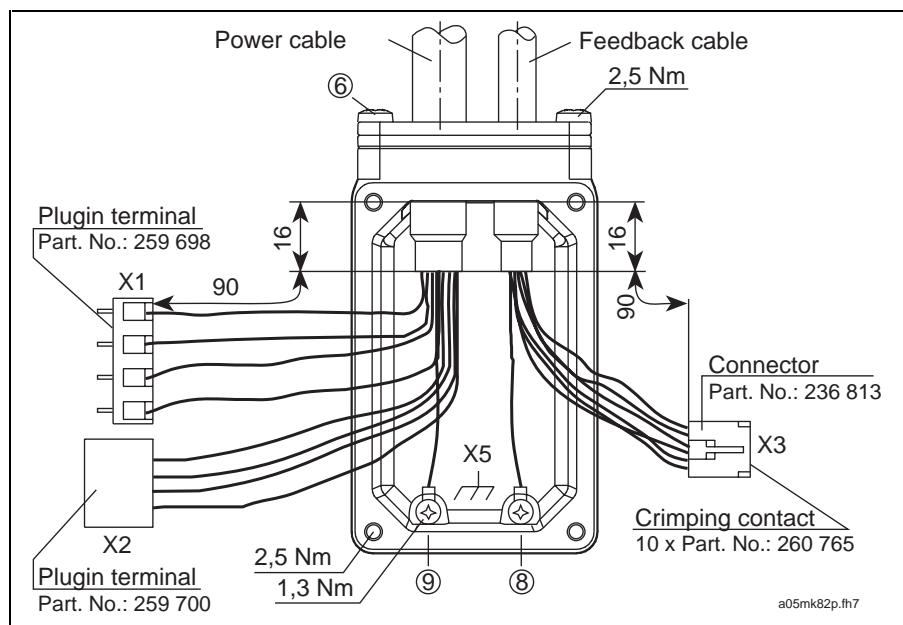

Fig. 13-2: Pulling power and feedback cables through
- ⇒ Pull the cable back to the point where the shrink sleeve penetrates the inside of the terminal box by about 16 mm (see Fig. 13-2).
- ⇒ Tighten screws (6) with 2.5 Nm.
- ⇒ Tighten grounding ring terminals (8) and (9) with 1.3 Nm to terminal box lid (1).